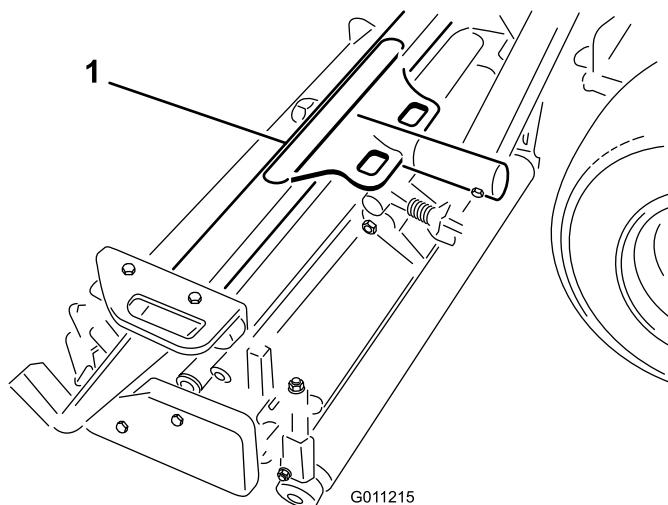
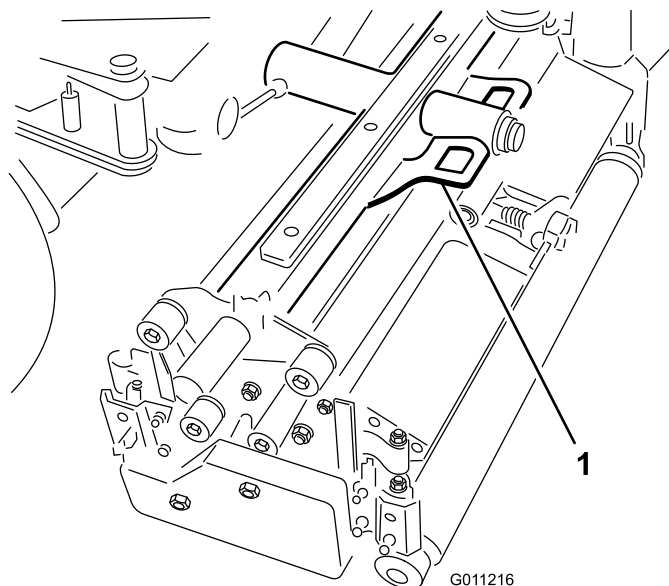
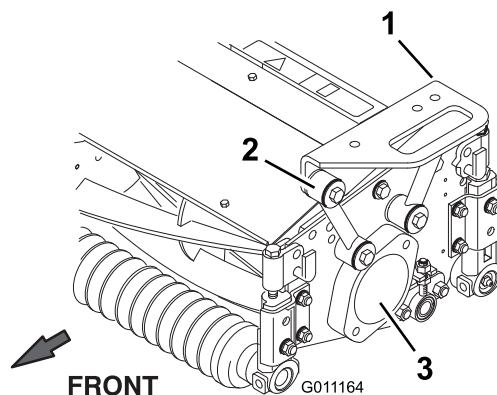

Figure 17
Figure 18
Figure 19
2. Position a front carrier frame (Figure 17) onto each front cutting unit. Align the mounting holes with the mounting links as shown in Figure 19.
3. Position the rear carrier frame (Figure 18) onto the rear cutting unit, and align the mounting holes with the mounting links as shown in Figure 19.
4. Secure each mounting link to the carrier frame with a bolt (3/8 x 2-1/4 inch), 2 flat washers, and a locknut, as shown in Figure 19. Position a washer on each side of the link when mounting. Torque the fasteners to 31 ft-lb (42 N-m).
5. Remove the shipping plug from the bearing housings on the remaining cutting units (Figure 19).